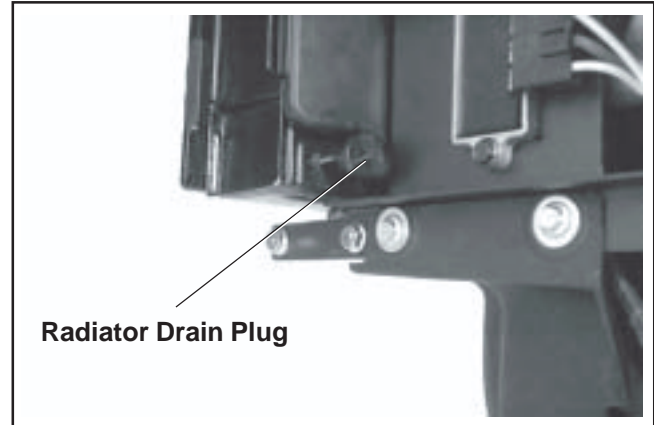

Figure 9-4. Radiator Drain Plug.
1. Loosen the radiator cap, then loosen the radiator drain plug and allow the system to drain. Use a suitable container to catch the coolant. See Figure 9-4.